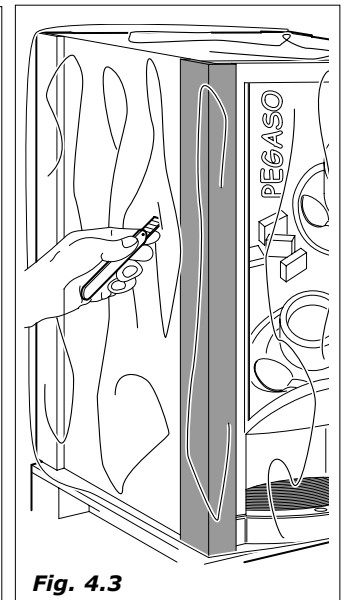

Fig. 4.3
- Free the distributor from the packaging, cutting the protective film in which it is wrapped, along one of the protection angles (Fig.4.3).